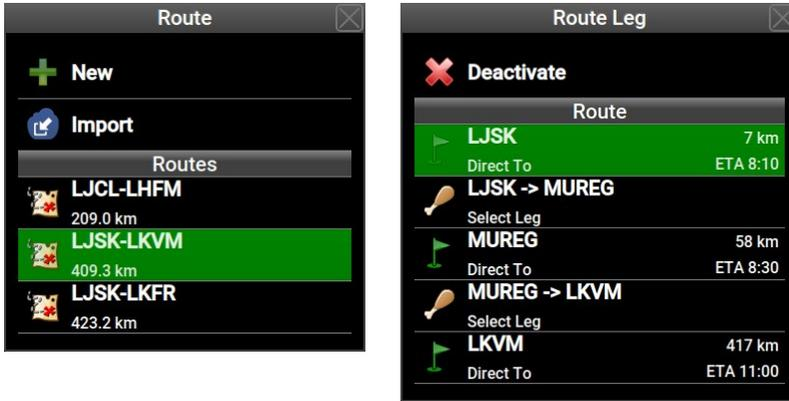

Figure 35: Route selection and activation window (left) and route manipulation window (right).
- When there is no active route, Nesis opens the route selection/activation window. See Figure 35 left. The window allows creation of a route, importing a route from USB stick or selection of one of existing routes from a list.
- However, if some route is already active, Nesis opens a route manipulation window. See Figure 35 right.
With no active route a window opens, like shown on Figure 35 left. Routes are sorted alphabetically. Route name is typically defined by a takeoff - landing airfield pair.
When the *Route* command is issued and some route is already active, a different window appears. See Figure 35 right.
- Select the *New* option from Figure 35 left.
When the **New** option is selected, see Figure 35 left, Nesis switches to a special *Route Planning* screen. Touch screen is used extensively in planning.
- Insert the stick into Nesis and select the *Import* command. See Figure 35 left.